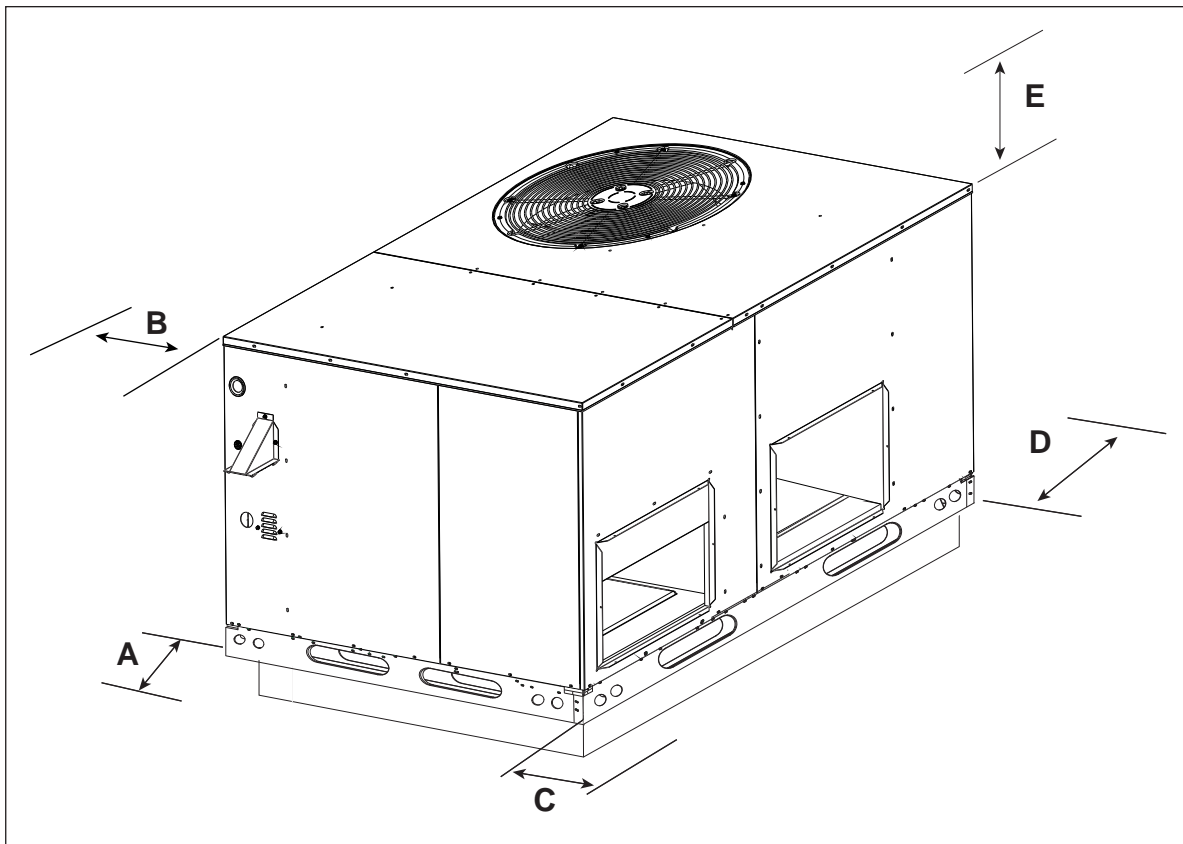

Figure 3. Minimum Clearances.
2. The vent termination must be located at least four (4) feet horizontally from any electric meters, gas meters, regulators, and relief equipment.
3. The vent termination must be located at least three (3) feet above any forced air inlet located within ten (10) feet.
4. The vent termination must be located at least four (4) feet below, four (4) feet horizontally from, or one (1) foot above any door, window, or gravity air inlet into any building.
5. The vent termination must be located at least one (1) foot above grade.
**Clearances to Combustible Materials** — See **Table 2** for required clearances to combustible materials. Refer to the unit data label for the model number. The gas/electric unit is suitable for installation on combustible flooring or class A, B, or C roofing materials. A clearance of at least 36 inches from the blower access panel and from the louvered control access panel is recommended to allow for servicing and maintenance. **Where accessibility to combustibles clearances are greater than minimum clearances, accessibility clearances must take preference.** Sufficient clearance for unobstructed airflow through the louvered control access panel and through the outdoor coil must be maintained in order to achieve rated performance. See **Figure 3** for minimum clearances to obstructions.